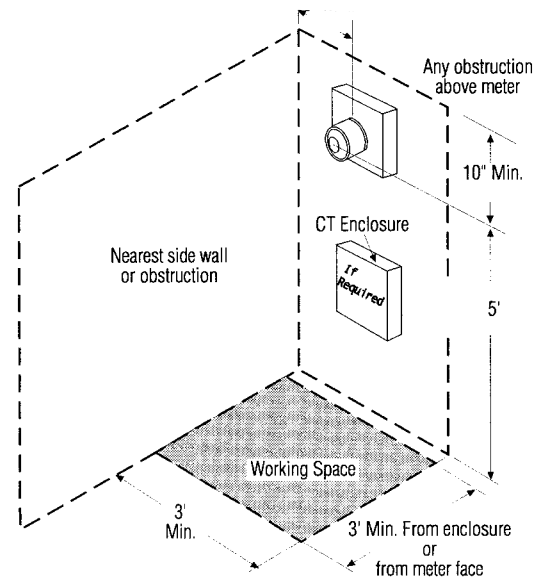

Figure 11 Meter socket minimum clearances
- A working space of 36 inches wide by 36 inches deep is required around the meter. See Figure 11. This working space is to be kept clear of any obstructions including landscaping.